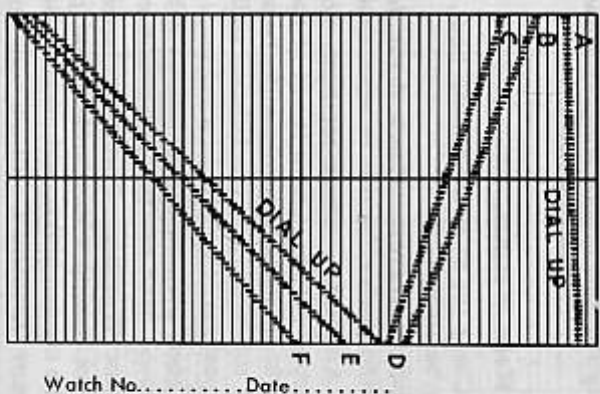

Figure 39 — Effect of Changing Regulator Pin Separation
(5) **FIGURE 39.** Records "A," "B," and "C" show three positions of a watch in which the regulator pins may be excessively far apart. The horizontal rate is approximately correct, the pendant down and up rates are slow. Records "D," "E," and "F" show the same three positions after the regulator pins have been closed until the action of the hairspring between them is proper. This has the effect of making the watch run faster in all positions but the change in the vertical position rates is greater than the change in the horizontal rate. This has the effect of bringing the position error within acceptable limits. Records "D," "E," and "F" show that the watch is gaining 3 minutes in 24 hours in the horizontal position. Rate correction may now be made by adding balance weights rather than by regulator pin manipulation.